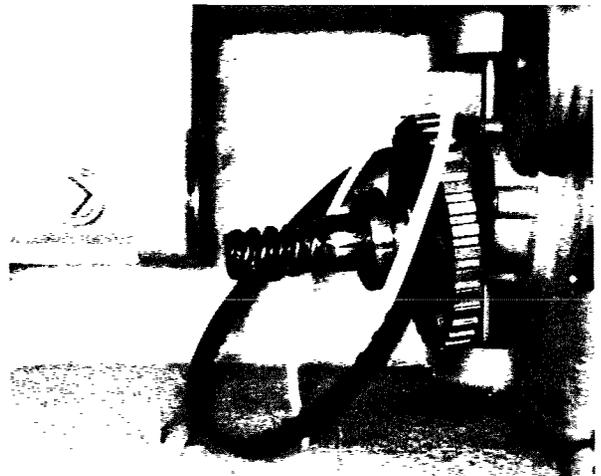

Fig. 2-29
- (13) Slip the belts over the end of the shaft (Fig. 2-29).